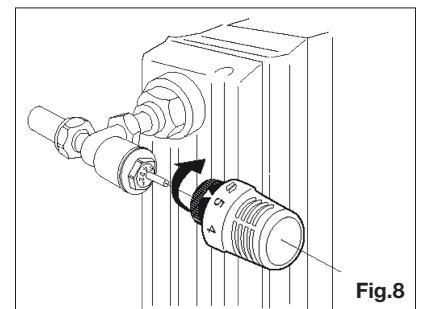

Fig.8
- 3) Open the actuator fully (**Pos.5**) and bring it into contact with the valve body, with the reference indicator clearly visible (**Fig.8**).